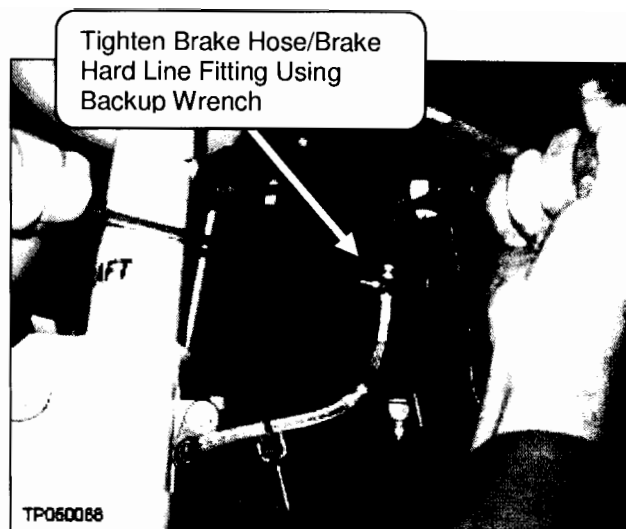

Figure 5
10. Tighten the brake hose to the brake hard line on the frame rail, making sure you use a backup wrench (see Figure 5) and that there is proper thread engagement/alignment.